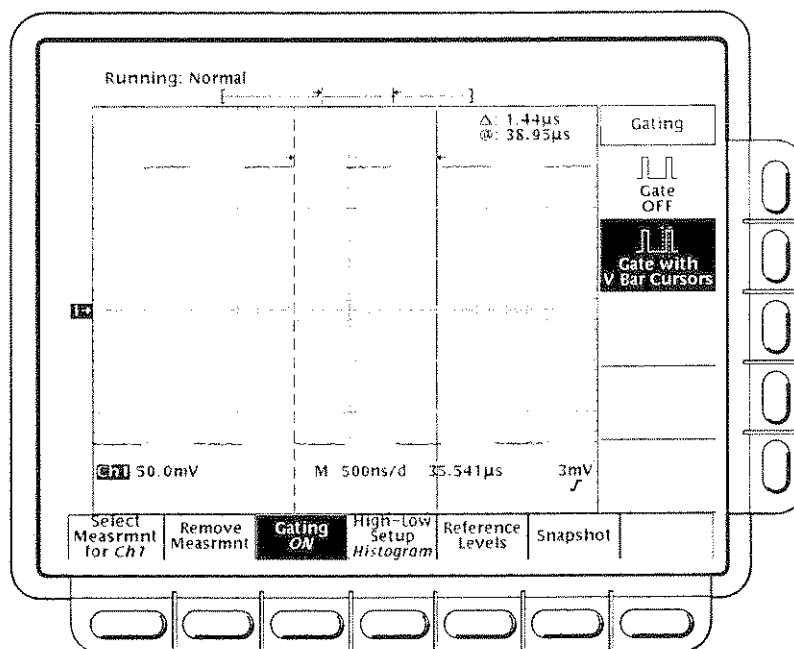

Figure 3-34: Measure Menu—Gating
1. Press **MEASURE → Gating** (main) → **Gate with V Bar Cursors** (side) (see Figure 3-34).